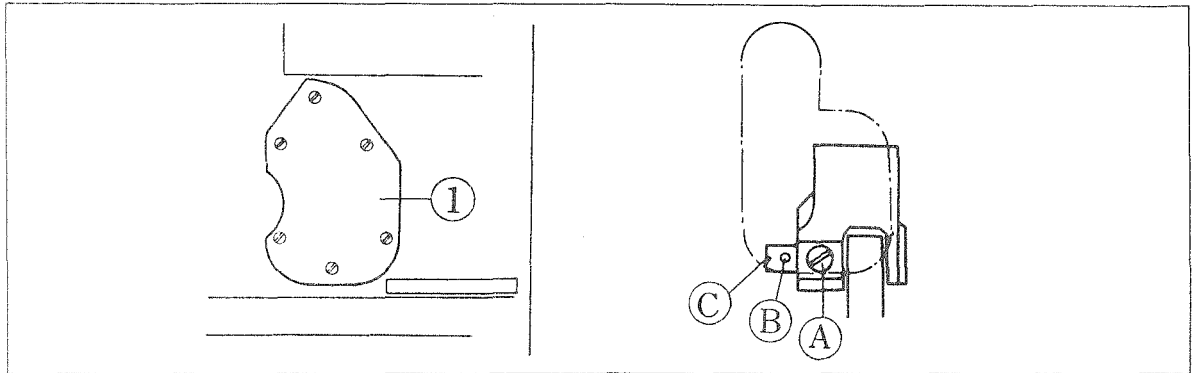

Fig. 20
If the chain looper touches the rear of the needle when the looper is moving backwards, while it provides a proper clearance at the needle during forward motion, remove rocker adjusting hole cover ①, Fig. 20, loosen screw ④, insert a 2 mm dia. pin into hole ③ and correct the looper clearance: Avoiding motion is maximized, when the mark "C" is brought toward operator. It is minimized when the mark "C" is brought to the far side from operator.